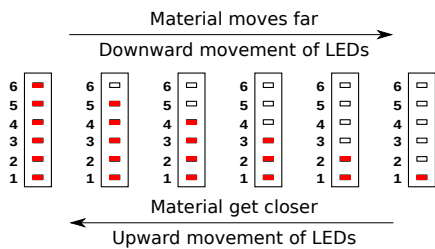

Figure 37: Demonstration of LED Bar Display
- Display Mode: The display mode shows the material distance from the instrument’s probe. The movement of LEDs in upward direction depicts the movement of application media towards Casper’s probe and vice-versa, as shown in Figure 37.